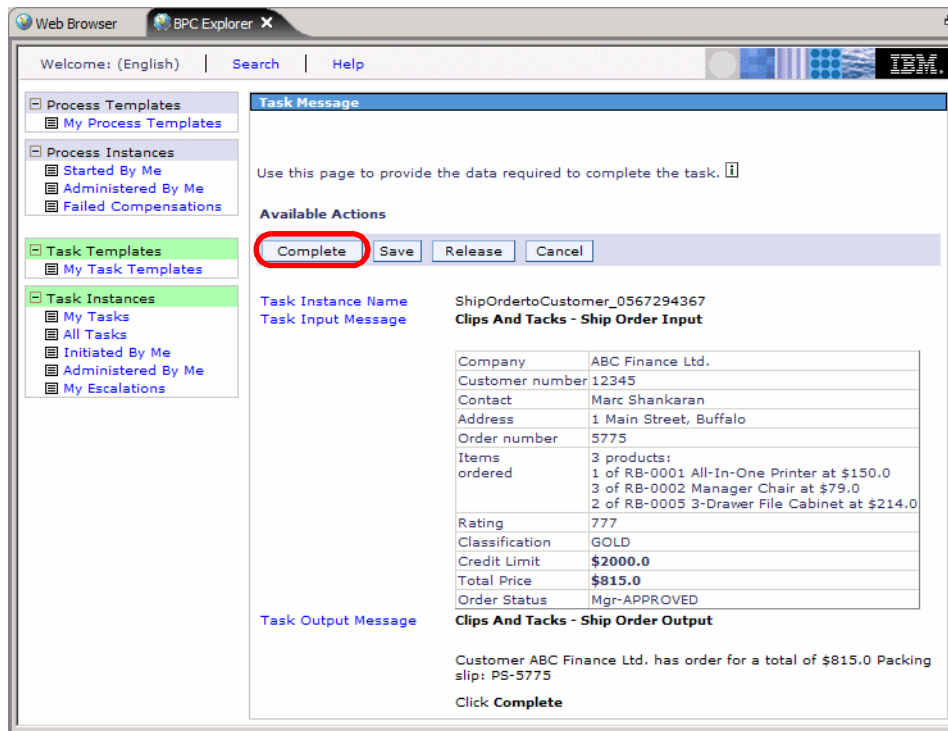

Figure 9-48 BPC Explorer: Custom JSPs for order shipment
- ▶ Select *Approve* and click *Complete*. After refreshing the task list the process is now waiting for shipping. Select the ShipOrdertoCustomer task and click *Work on*. The custom JSPs for shipping are displayed (Figure 9-48).